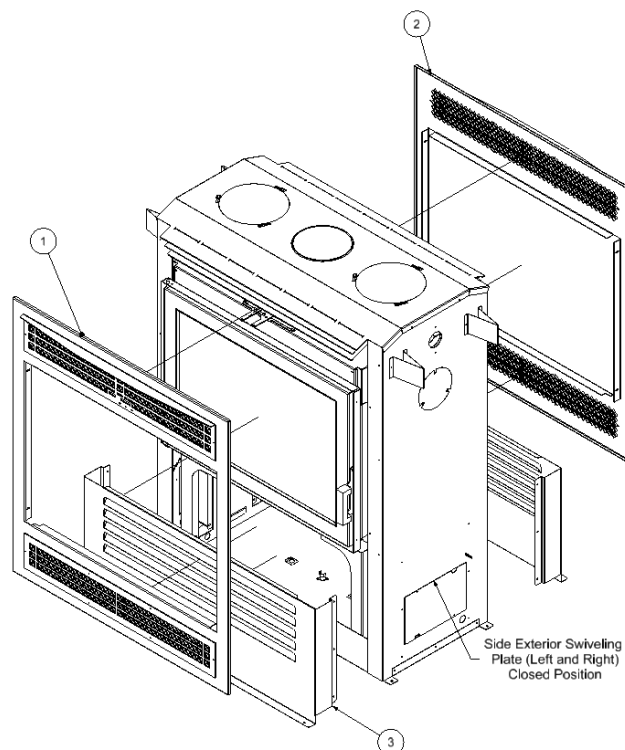

Figure 3-7: Traditional Surround
The Traditional surround comprises louvers below (intake) and above (outtake) the door. All components and fasteners are included in the surround kit. Refer to Figure 3-7 and Table 3-3 for the instructions below.
2. Place the Front Traditional surround (Item 1 in Figure 3-7) within the door holder and secure it in place with four black screws (one on each corner). Make sure that the handles of the Combustion Air Control pass through the slots of the surround.
3. Repeat Step 2 with the Back Traditional surround (Item 2 in Figure 3-7).
4. Fasten the Lower Framing Brackets to the side exterior casing of the unit as illustrates in Figure 3-7. Note that these brackets can be adjusted for framing purposes.
6. Secure the Intake Swivel Covers on the bottom sides of the unit to the closed position (Figure 3-7).